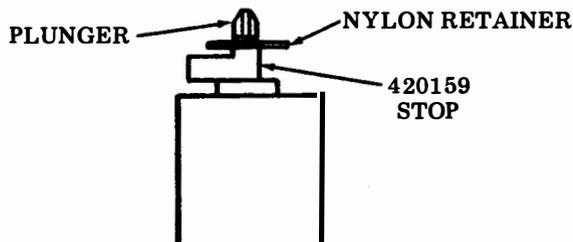

Fig. 48
- (d) With the plunger pulled up, insert a 420159 stop under the retainer as shown in Fig. 48.